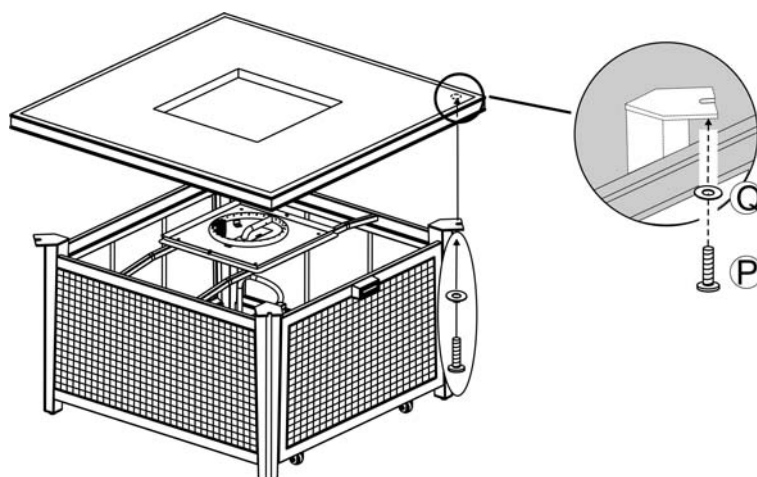

Figure 3
2. Place the firepit tabletop onto the firepit base. Secure the tabletop to the firepit base by using the 1/4 x 20 mm bolts and washers that are provided. See Figure 3.